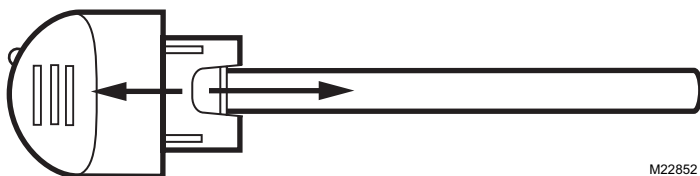

Fig. 10. Disconnect lamp glass from SnapLamp™ handle.
5. If you have a SnapLamp™ handle, follow steps 5 and 6; otherwise, proceed to step 7. Grasp the SnapLamp™ handle in one hand and the lamp glass in the other and pull straight apart. See Fig. 10.